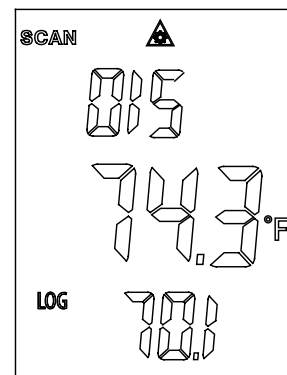

Fig. 2
2. Press the **Backlight/Laser** button to log a temperature reading into an empty location (Fig. 2); a short beep will sound. If that location has already been used, you can use the **Up ▲** and **Down ▼** buttons to move to an empty location.
1. Press the **MODE** button until the **LOG** icon appears in the lower left corner of the display. A LOG location number will be shown in the top display and the stored temperature for that location will be shown in the bottom display (Fig. 2).